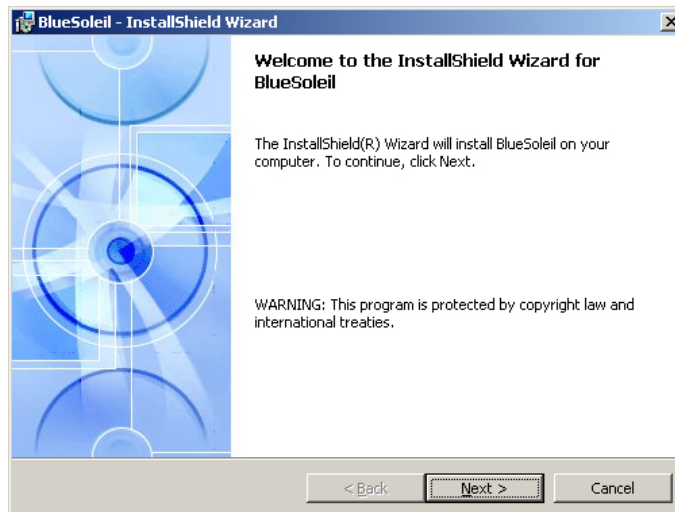

Figure 7-30: Welcome Screen
Step 3: A welcome screen appears (**Figure 7-30**). To continue the installation process click **NEXT**.